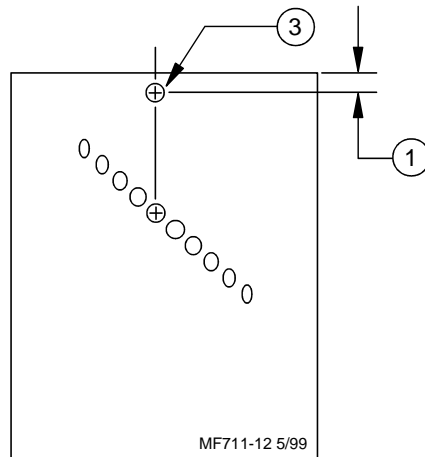

Figure 11.
2. Drill two 3/16" diameter holes in the existing metal feed tubes. **See Figure 11. Not required with PVC Feed level Tubes.**